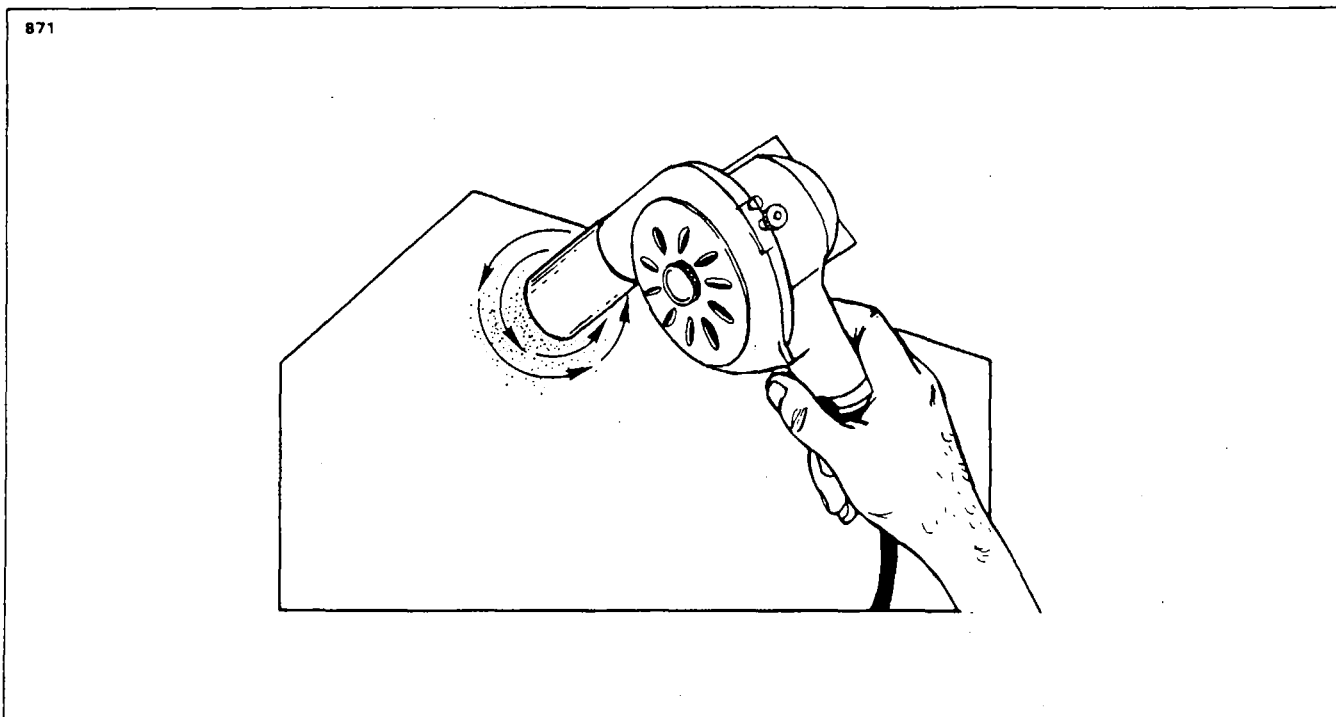

Figure 4-4. Surface Scratches, Abrasions or Ground-in-Dirt
b. Surface Scratches, Abrasion or Ground-in-Dirt: (Refer to Figure 4-4.)